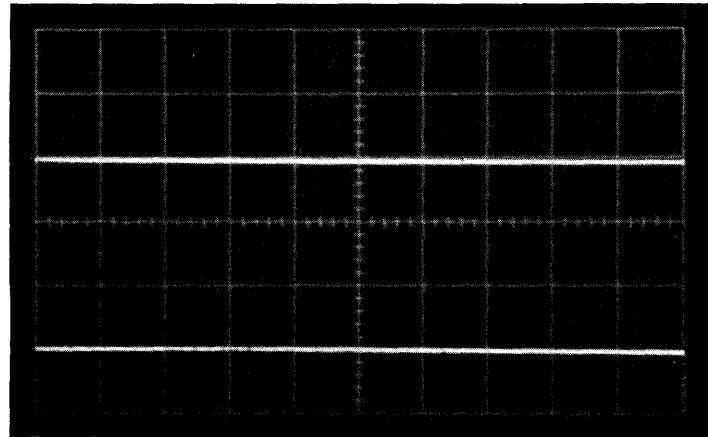

Figure 3-1 Ground Reference
2	Adjust the oscilloscope as follows: <ol style="list-style-type: none">a. Trigger: Channel 1 onlyb. Mode: Channel 1c. Channel 1: 5V/Divisiond. Set ground reference sweep on 1 cm above center horizontal graticule (see Figure 3-1).e. Sweep: 0.5 ms
g. The oscilloscope should appear as shown in Figure 3-1.
2	The oscilloscope is set as follows: <ul style="list-style-type: none"> a. Trigger: Channel 1 only b. Mode: Channel 2 only c. Channel 1: 2V/cm d. Channel 2: 50 mV/cm e. Channel 2 GND reference: 2 cm below center graticule (see Figure 3-1) f. Current probe terminator to 2 mA/mV g. Sweep: 2 μs h. Slope: Positive; Source: Internal i. Attach the current probe to Channel 2.